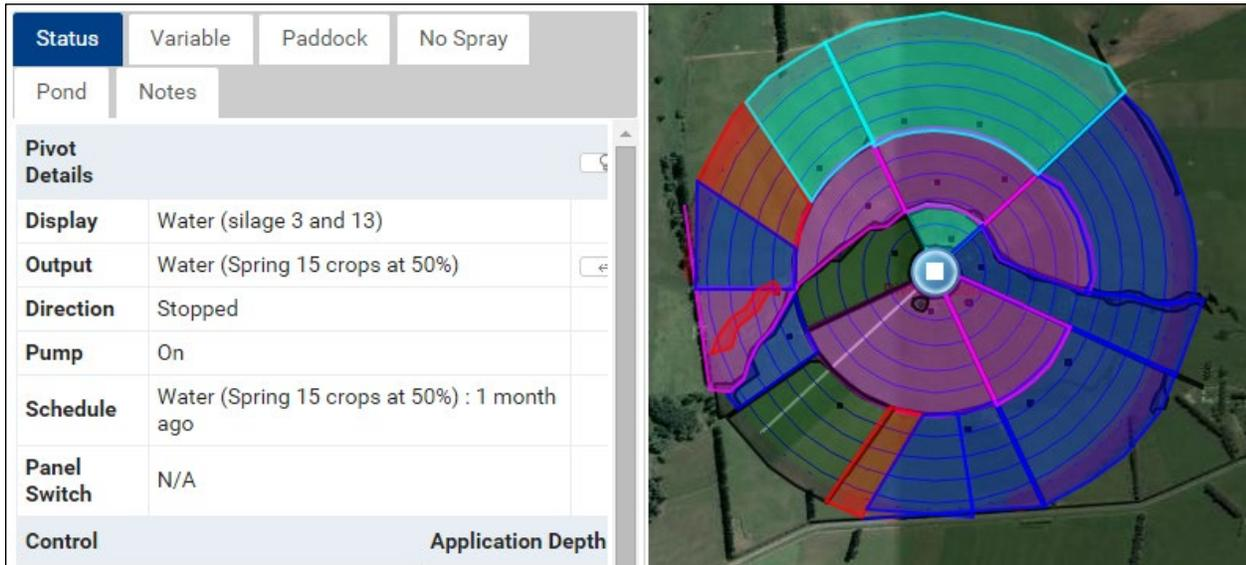

Figure 16-1
- The status and map pane change to show the display scenario, which can be edited without affecting the active scenario. Refer to Figure 16-1.